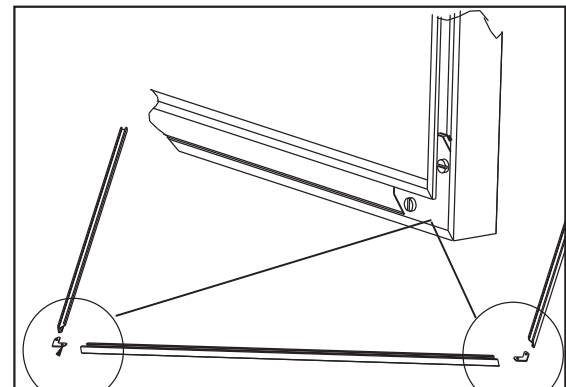

Figure 20.5
4. Using a standard flat screw driver tighten the corner brackets. **Figure 20.5.**